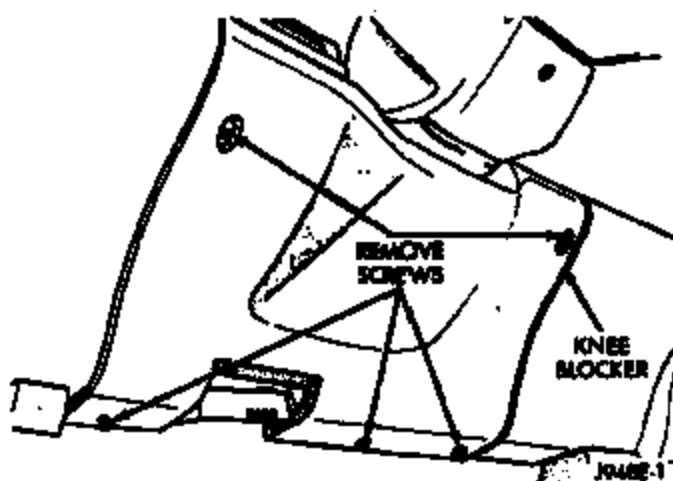

Figure 3
2. Remove the five (5) screws that secure the knee blocker to the lower instrument panel and then remove the knee blocker (Figure 3).